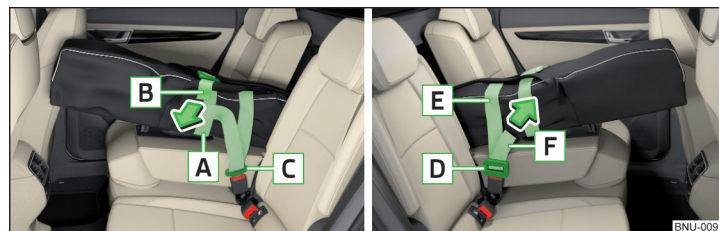

Fig. 125 Tighten band / secure bag - VarioFlex
- ▶ Tighten the drawstring **A** » Fig. 125 around the skis on the tie base and at the free end **B** in the direction of the arrow.